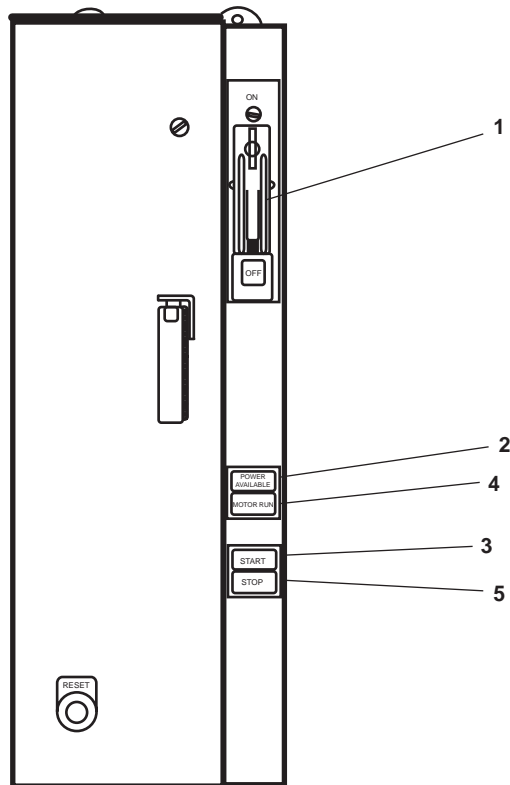

Figure 5. Lube Oil Transfer Pump Motor Controller
- (1) Set the ON-OFF switch (figure 5 item 1) to ON.
- (2) Verify that the POWER AVAILABLE indicator (figure 5, item 2) energizes.
- (3) Press the motor controller START pushbutton (figure 5, item 3).
- (4) Verify that the MOTOR RUN indicator (figure 5, item 4) energizes.
- a. Press the STOP pushbutton (figure 5, item 5).
- b. Verify that the MOTOR RUN indicator lamp (figure 5, item 4) goes out.
- c. Set the ON/OFF switch (figure 5, item 1) to the OFF position.
- d. Verify that the POWER AVAILABLE indicator (figure 5, item 2) goes out.